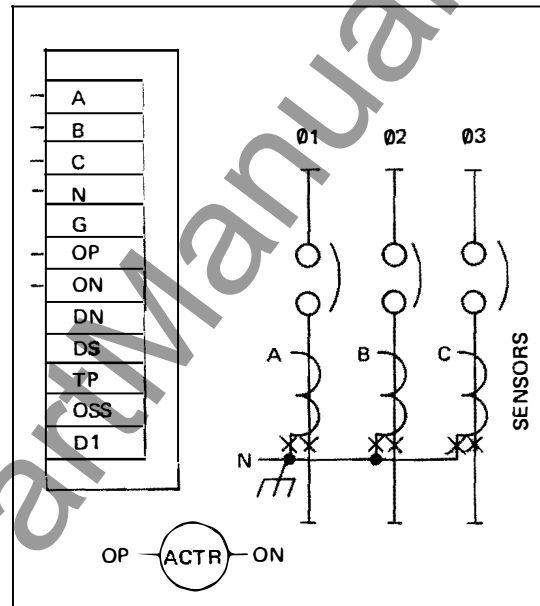

Figure 2
10. Figure 2 shows a typical standard connection diagram, which includes the Amptector terminal block. The following tabulation explains the markings of the terminals.